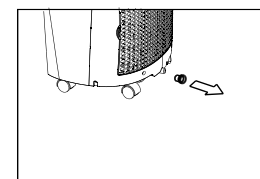

Fig.23
Carefully move the unit to a drain location, remove the bottom drain plug and let the water drain away(Fig.23). Restart the machine until the "P1" symbol disappears. If the error repeats, call for service.
- Remove the rubber plug at the back of the unit and attach a hose to drain outlet. Place the open end of the hose directly over the drain area in your basement floor (See Fig.23 & 24).
- Remove the plug from the bottom drain outlet, all the water in the bottom tray would drain out (See Fig.23).